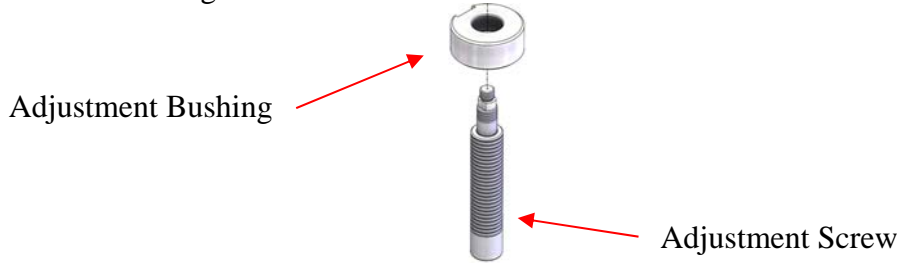

Figure 31: Adjustment Screw and Adjustment Bushing
14. Unscrew the adjustment bushing from the adjustment screw. The adjustment bushing has left handed threads. See Figure 31.